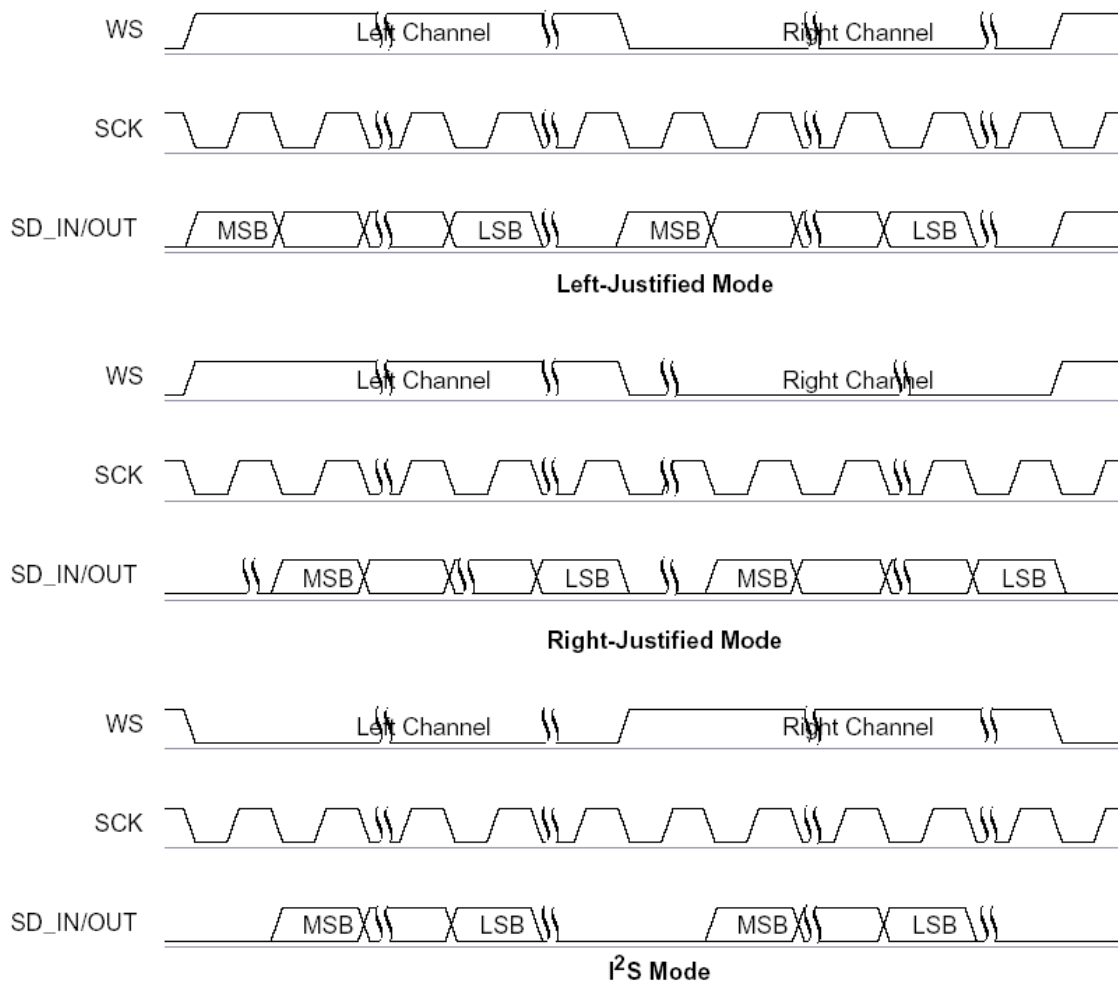

Figure 26: Digital Audio Interface Modes
The digital audio interface supports the industry standard formats for I2S, left-justified (LJ) or right-justified(RJ). The interface shares the same pins as the PCM interface, which means each audio bus is mutually exclusive in its usage. Table 17 lists these alternative functions. Figure 26 shows the timing diagram.